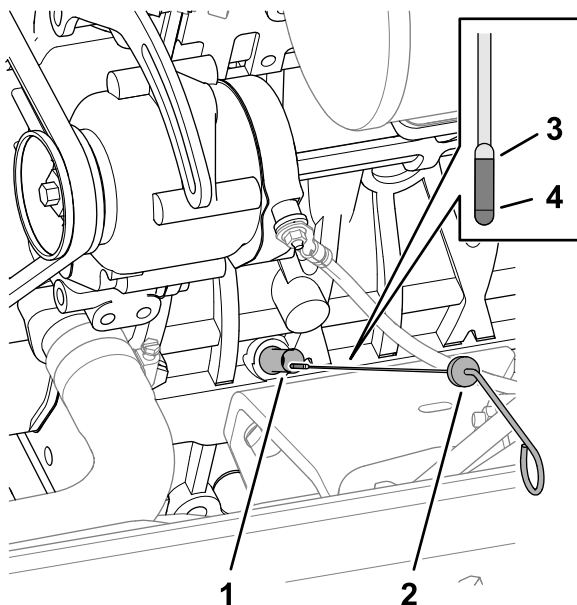

Figure 78
3. At the right side of the engine, remove the dipstick from the dipstick tube (Figure 78) and wipe the dipstick with a clean rag.